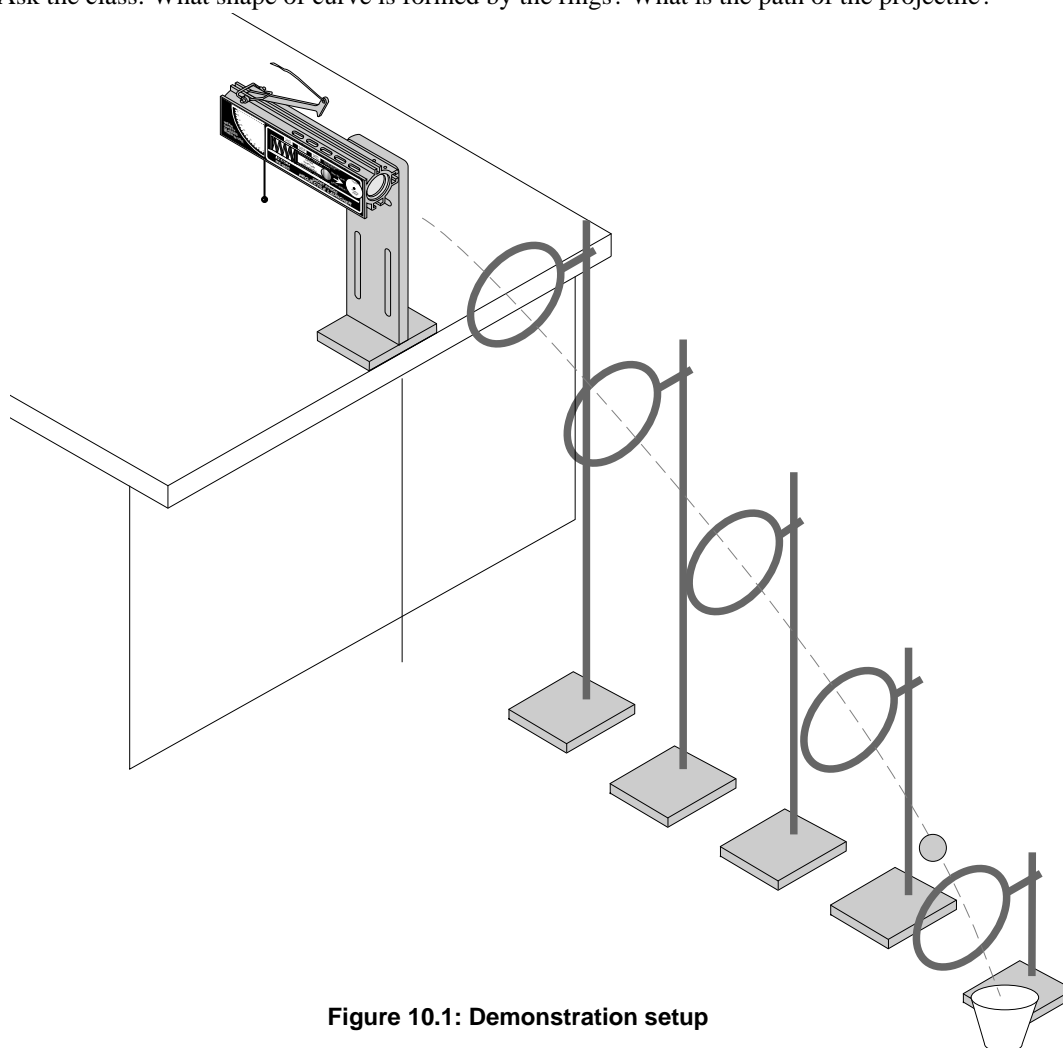

Figure 10.1: Demonstration setup
- Starting at the muzzle of the Launcher, measure off each set of x and y distances and place a ring clamp on a stand at each position corresponding to one-tenth of a second (see Figure 10.1).